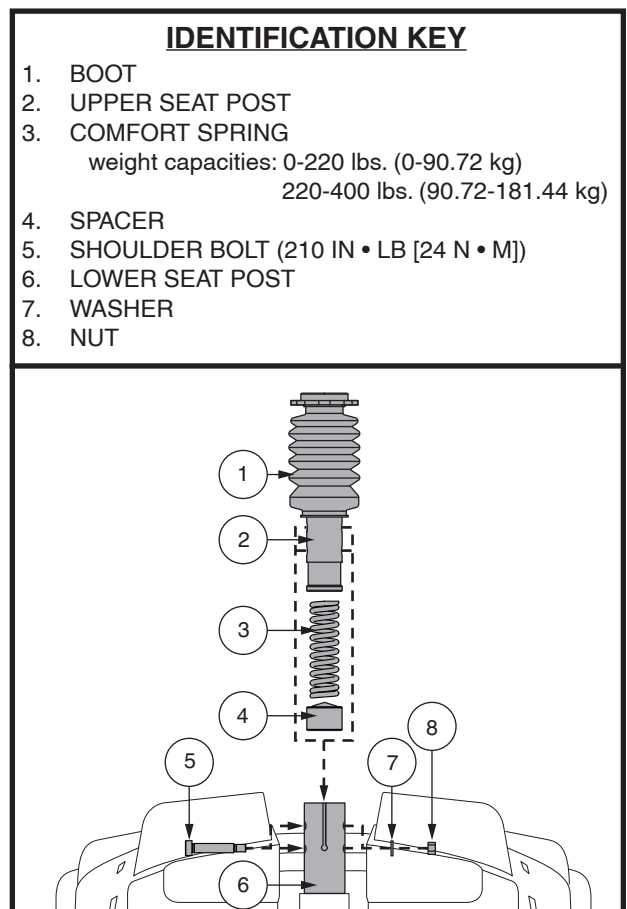

Figure 21. Seat Height Adjustment - Comfort Seat Post
4. Push down on the seat post while loosening and removing the shoulder bolt, washer, and nut. **See figure 21.**
6. Install the desired spring. **See figure 21.**